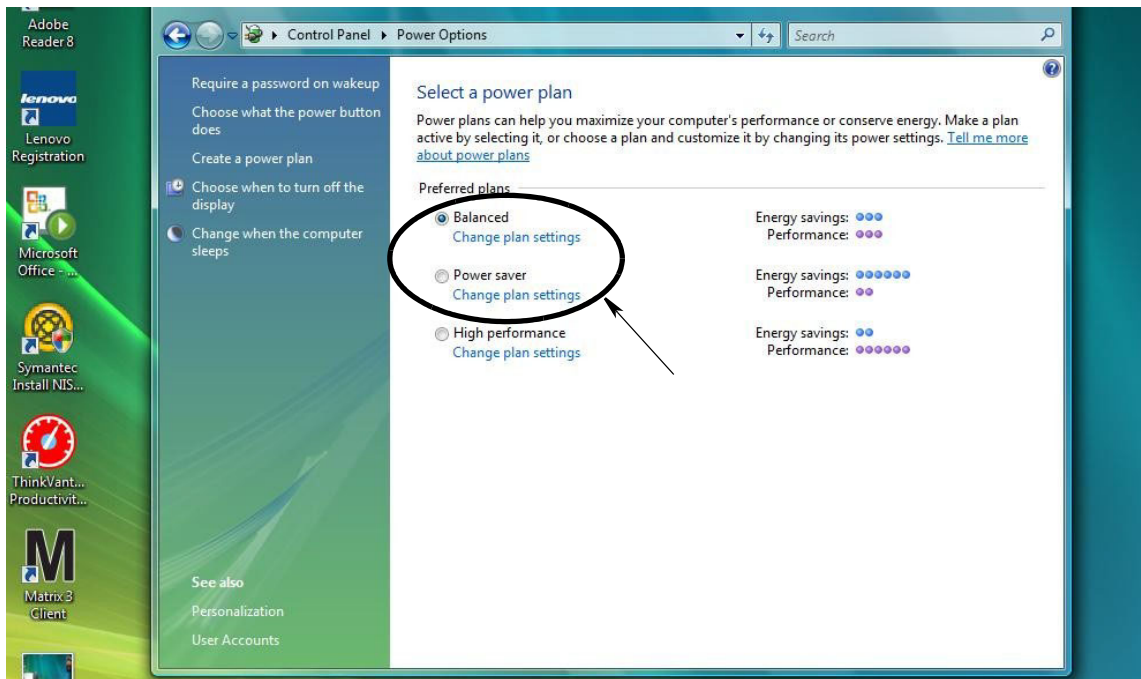

FIG. 34
3. Select either “Balanced” or “Power Saver” power plans and then click the Change Plan Settings link to view the hibernation options (FIG. 34).